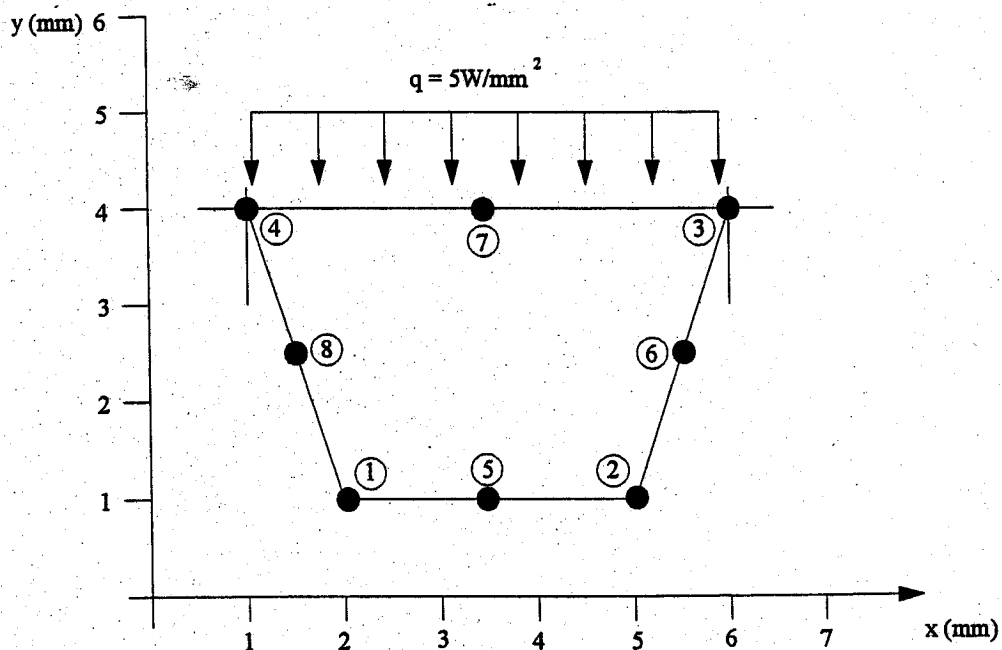

FIGURE 5
Compute the thermal load vector $\int_s q \underline{N}^T ds$ due to heat conduction on the side with nodes 4, 7 and 3 as shown in Figure 5. Apply a simple check to show that your numerical result is correct. (20)